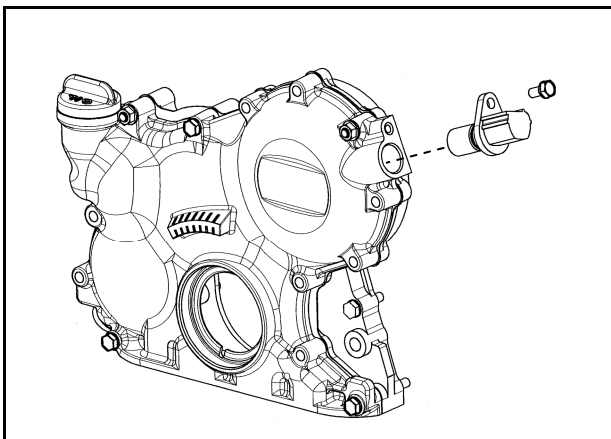

Fig. 7 - Removing Cam position sensor
(1) Remove a bolt and remove Cam position sensor. Fig.7